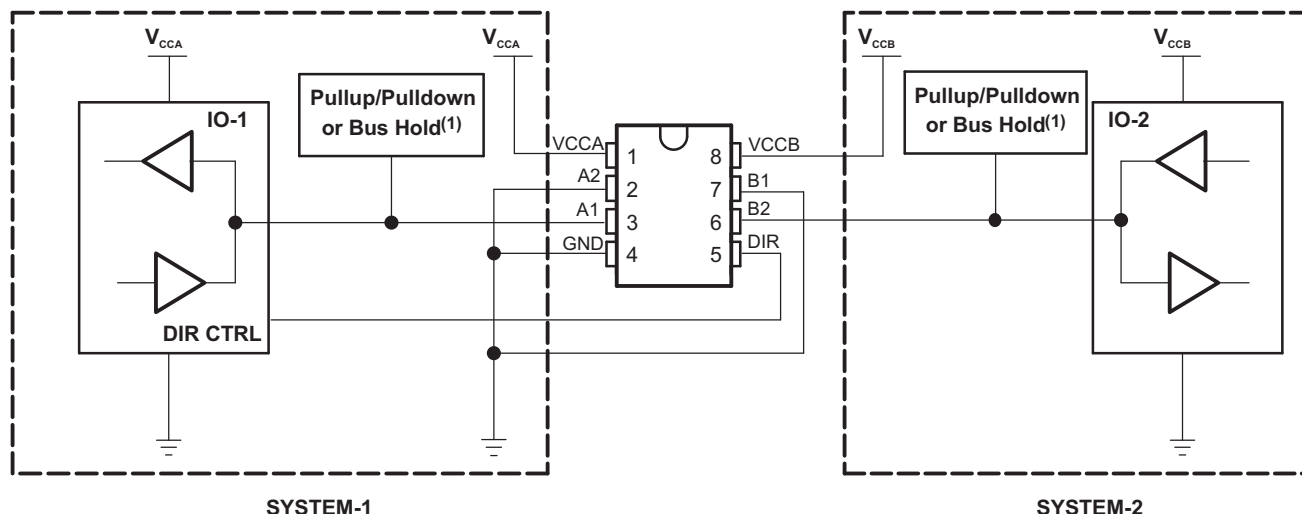

Figure 10. Bidirectional Logic Level-Shifting Application
Figure 10 shows the SN74AVCH2T45 used in a bidirectional logic level-shifting application. Because the SN74AVCH2T45 does not have an output-enable (OE) pin, system designers should take precautions to avoid bus contention between SYSTEM-1 and SYSTEM-2 when changing directions.